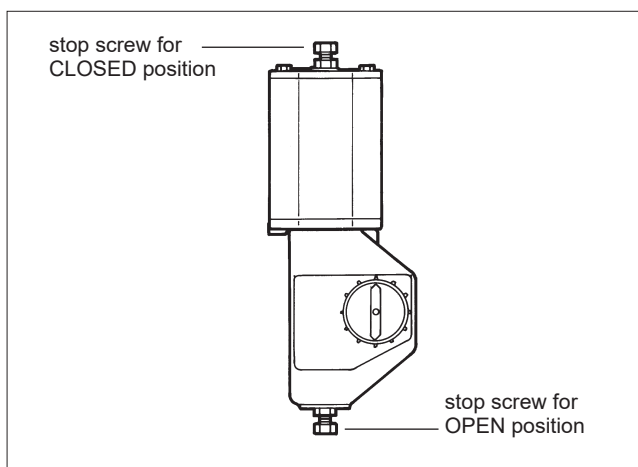

Fig. 24 Adjusting the open and closed position
- Adjust the plug open and closed positions by means of the actuator stop screws located at both ends, Fig. 24. An accurate open position can be seen in the body flow bore. Check that the yellow arrow on the actuator indicates the plug flow opening position. **Keep fingers out of the flow bore!**